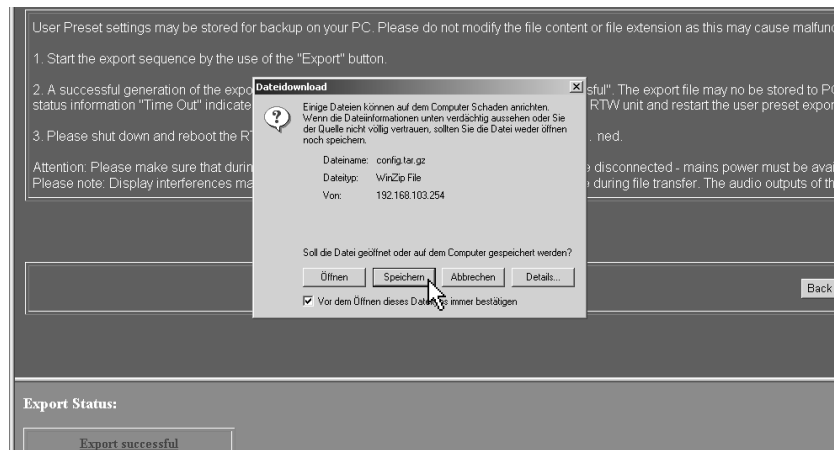

Fig. 8-16: The file download dialog
6. The file download dialog box appears (see Fig. 8-16). Please click **Save** ("Speichern").